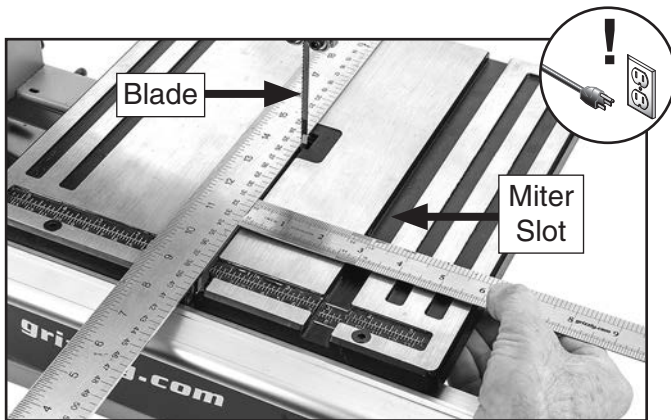

Figure 32. Example of placing a straightedge along blade and measuring to miter slot.
3. Place straightedge along blade so it barely touches both front and back of blade without going across a tooth (see **Figure 32**).
4. Measure distance between straightedge and miter slot (see **Figure 32**). Distance should be same at front and back of table.